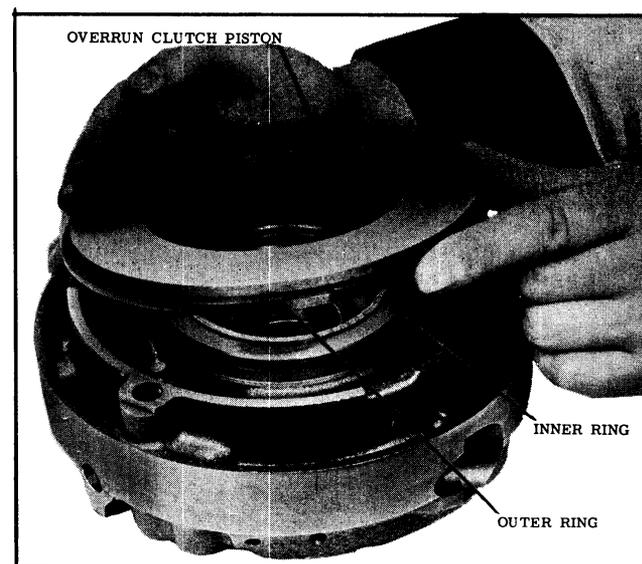

Fig. 3-101 Installing Overrun Clutch Piston
1. Install the overrun clutch piston into the pump body. Dowels must be aligned with dowel holes. (See Fig. 3-101)